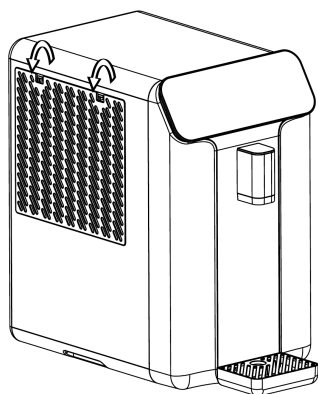

Figure 5 · Open the filter cover on the left-hand side
2. Press the buttons on both sides of the top of the filter cover on the left-hand side of the appliance and remove the cover (Figure 5).